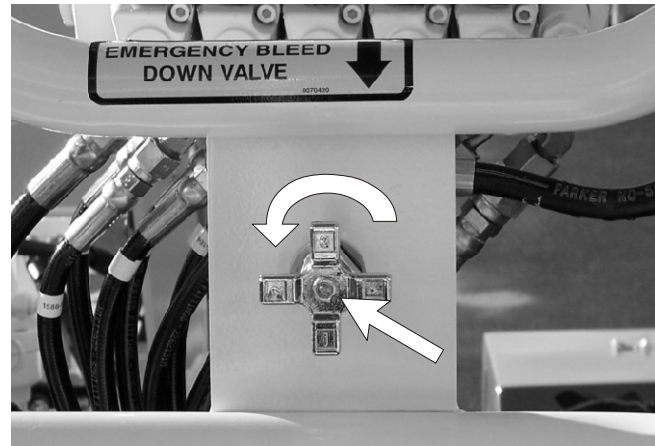

Figure 11.7 - Platform Emergency Bleed Down Valve - Steel Platform
1. Open the emergency bleed down valve in the platform (see Figure 11.7, & 11.7.2) by turning it anti-clockwise.